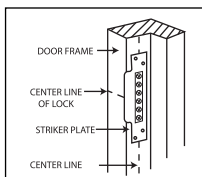

fig.3
4. Insert lock into door and secure with screws supplied determine the position of the strike on the door frame and fix as required fig. 3 & 4